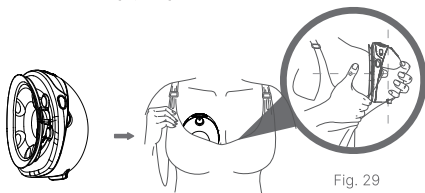

Fig. 29
a. Before pumping, please make sure the pump is pressed tightly on your breast without a gap (Fig. 29).